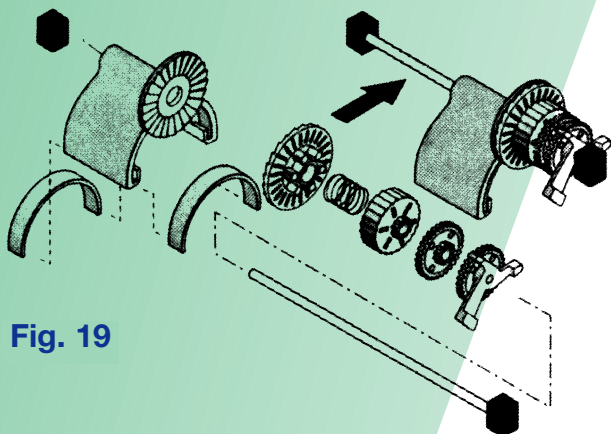

Fig. 19
2. Install the oscillator on the long gear shaft. Install the ratchet gear on the shaft so that the teeth engage the ratchet on the oscillator. Install the spring, ratchet drum, pinion gear (large gear first), and cam (gear end first) on the shaft (See Figure 19). Hold the gears on the shaft while installing them, and compress the clutch spring to allow assembly to slip into place between the posts (See Figure 19).